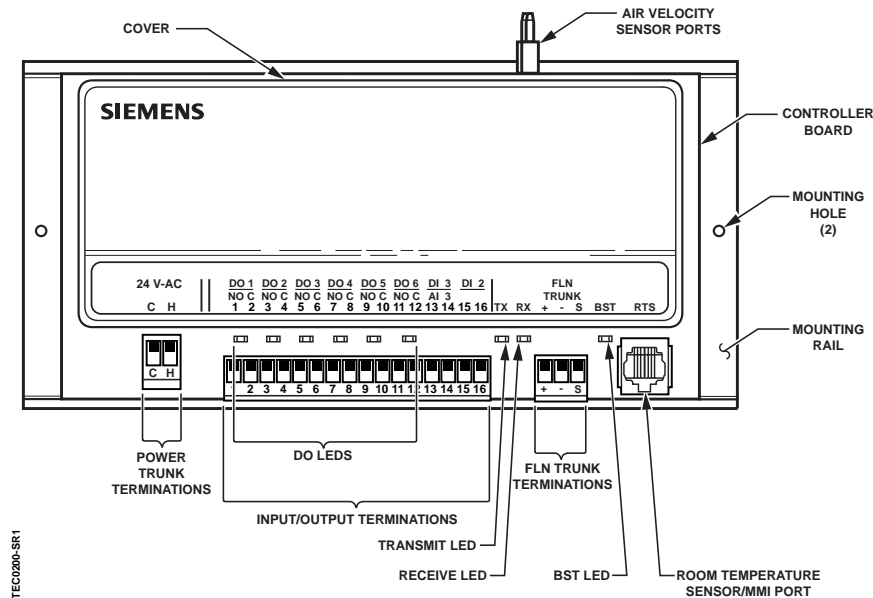

Figure 1. Smoke Control Listed Terminal Box Controller - Electronic Output.
1. Secure the mounting rail (Figure 1) in the controller's desired location.
7. Plug the room temperature sensor cable into the RTS port (Figure 1).